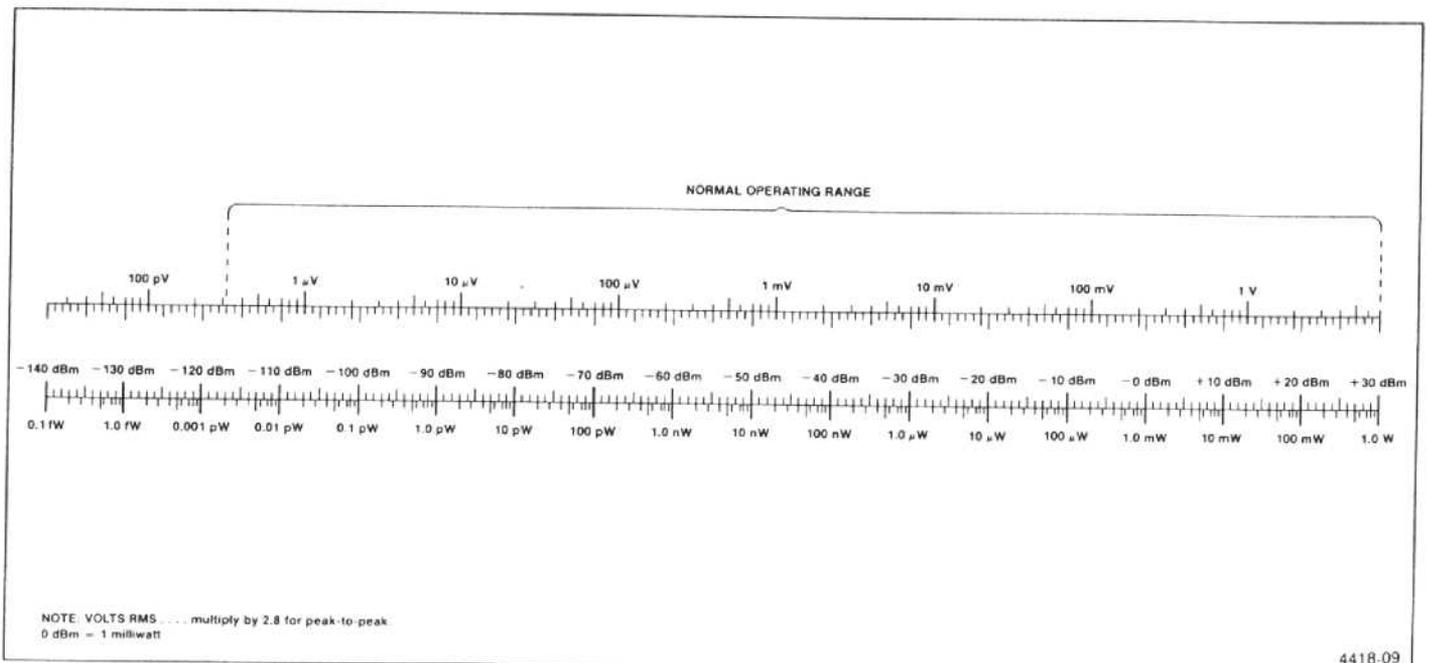

Figure 6-1. Volts-dBm-Watts conversion chart for 50 Ω impedance.
**Amplitude Conversion.** A conversion chart, shown in Figure 6-1, can be used to convert input signal levels of voltage or power to dBm.